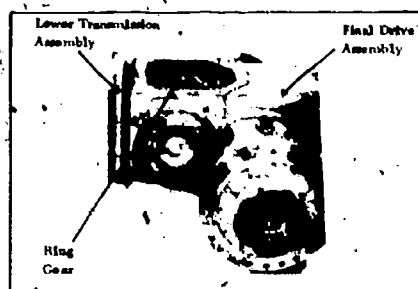

Fig 3-35. Final drive assembly.
b. Grader. Attached to the rear of the grader lower transmission is the final drive assembly (fig 3-35). It turns the power flow 90° just as a differential in other machines, but it does not allow one wheel to rotate while the other is being held. Wheels on both sides of the grader are receiving power when power is being transmitted through the final drive. Power is transmitted by the bevel pinion gear, which is made as a part of the lower transmission pinion shaft, being in mesh with and rotating the ring gear. The ring gear is keyed to a shaft and bull pinion; the component is called the jack shaft assembly when the ring gear and parts are assembled. The bull pinion is in mesh with and rotates a bull gear. Splined to each side of the bull gear are axle shafts which transmit the power to both tandem assemblies. The gear on the lower transmission pinion shaft and the ring gear are the spiral bevel type. This provides more tooth contact and quieter operation. The bull gear and the bull pinion are the straight spur gear type. The bull gear and the jack shaft assembly are mounted on tapered roller bearings which require adjustment. The bearing preload is adjusted by adding or removing shims on the jack shaft assembly and an adjusting nut on the bull gear assembly.